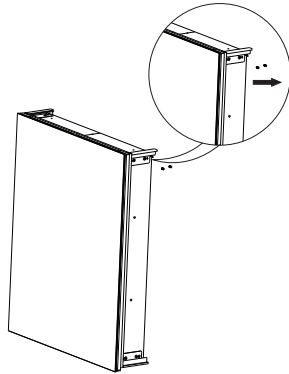

Fig.2
1. 2 Loosen the screws on the glass bracket (Fig.2)